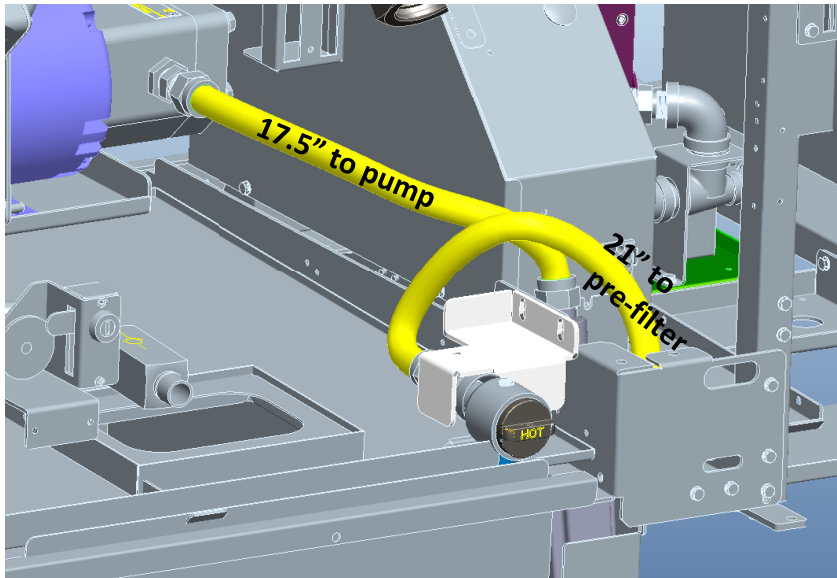

Figure 5
8. Route the 17" flexline from the top of the sensor to the filter pump. Route the 21" flexline from the bottom of the sensor to the rear of the female pickup bracket (see Figure 5).